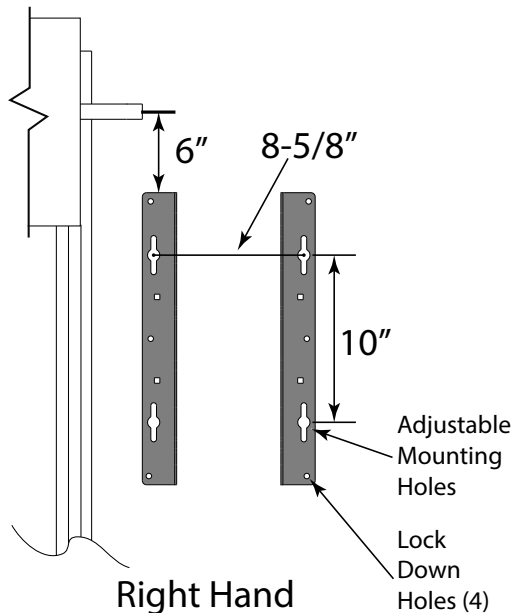

Figure 20
- Mark mounting holes on wall using template as a guide. See Figure 20
- Install appropriate bolts/lags into at least 2 lock down holes. See Figure 20